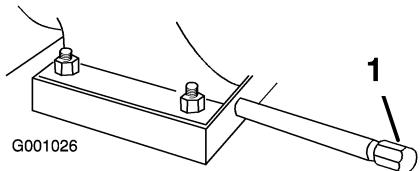

Figure 42
- Clean the area around the oil drain cap (Figure 42).